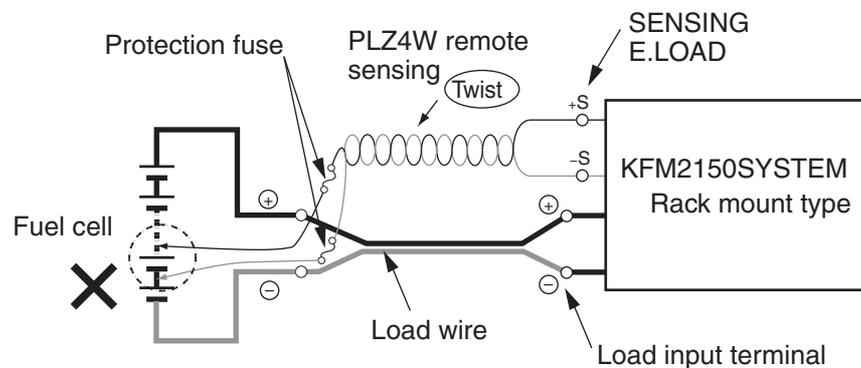

Fig. 3-8 Example of a unrecommended wiring
- CAUTION** • The PLZ4W remote sensing circuit may break. Do not connect the SENSING/E.LOAD (+S and -S) terminals on the back side of the rack directly to the cell of the fuel cell (Fig. 3-8).